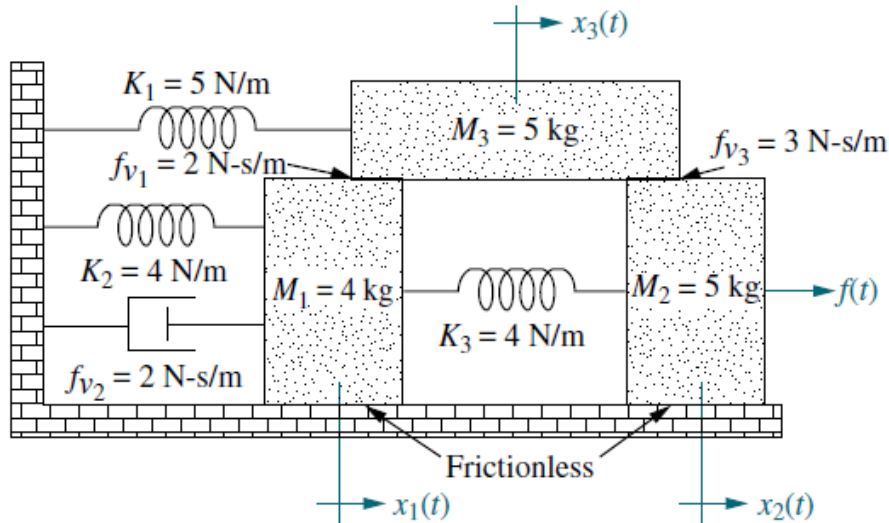

FIGURE P2.15
29. Write, but do not solve, the equations of motion for the translational mechanical system shown in Figure P2.15. [Section: 2.5]